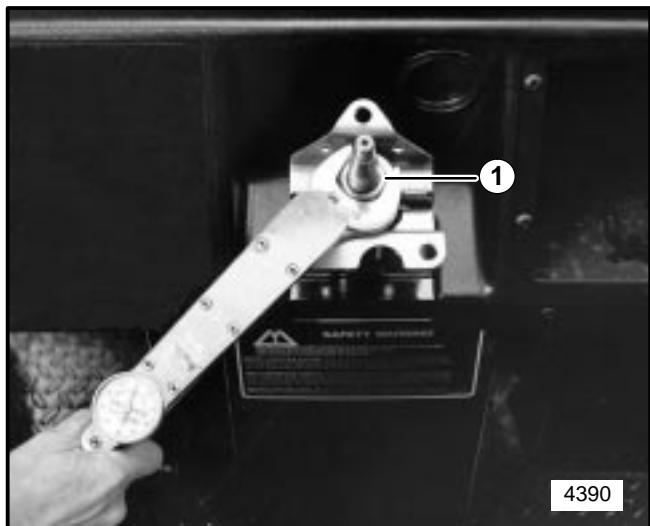

FIGURE 20
- Tighten the jam nut to 15 ft.-lbs. (20 N·m) torque. Hold this nut to keep it from turning and tighten the locking nut to 91 ft.-lbs. (120 N·m) minimum, 109 ft.-lbs. maximum torque. Refer to Figure 20.